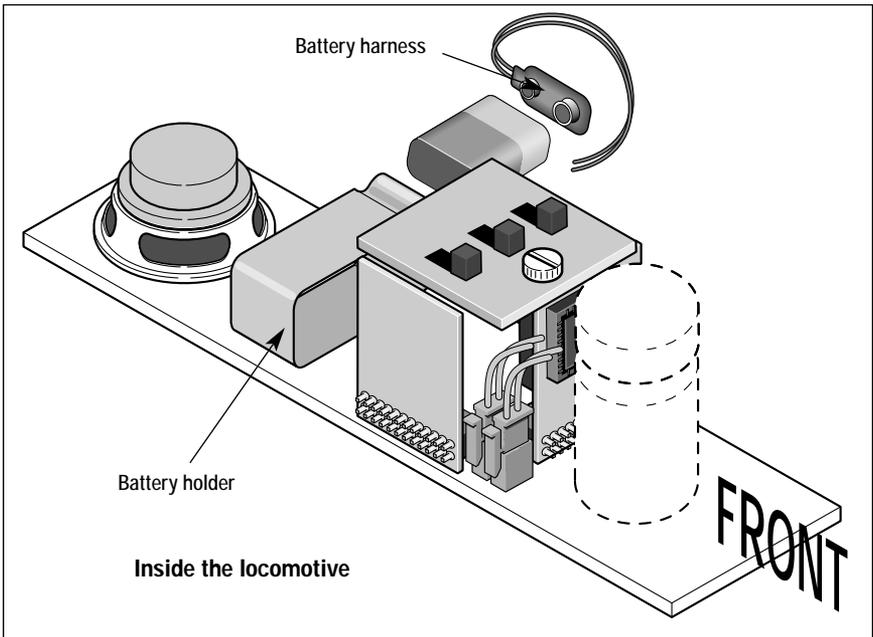

Figure 4. Battery installation
Although the RailSounds sound system is powered through the track, we recommend that you install a nine-volt alkaline battery to prevent the sound system from shutting down during track power interruptions (for example, at a switch or a dirty section of track). Follow these steps and refer to Figure 4 as you install the battery.
1. Remove the body screws from the underside of the locomotive and lift away the body. Refer to Figure 4 on page 27 for the screw locations.